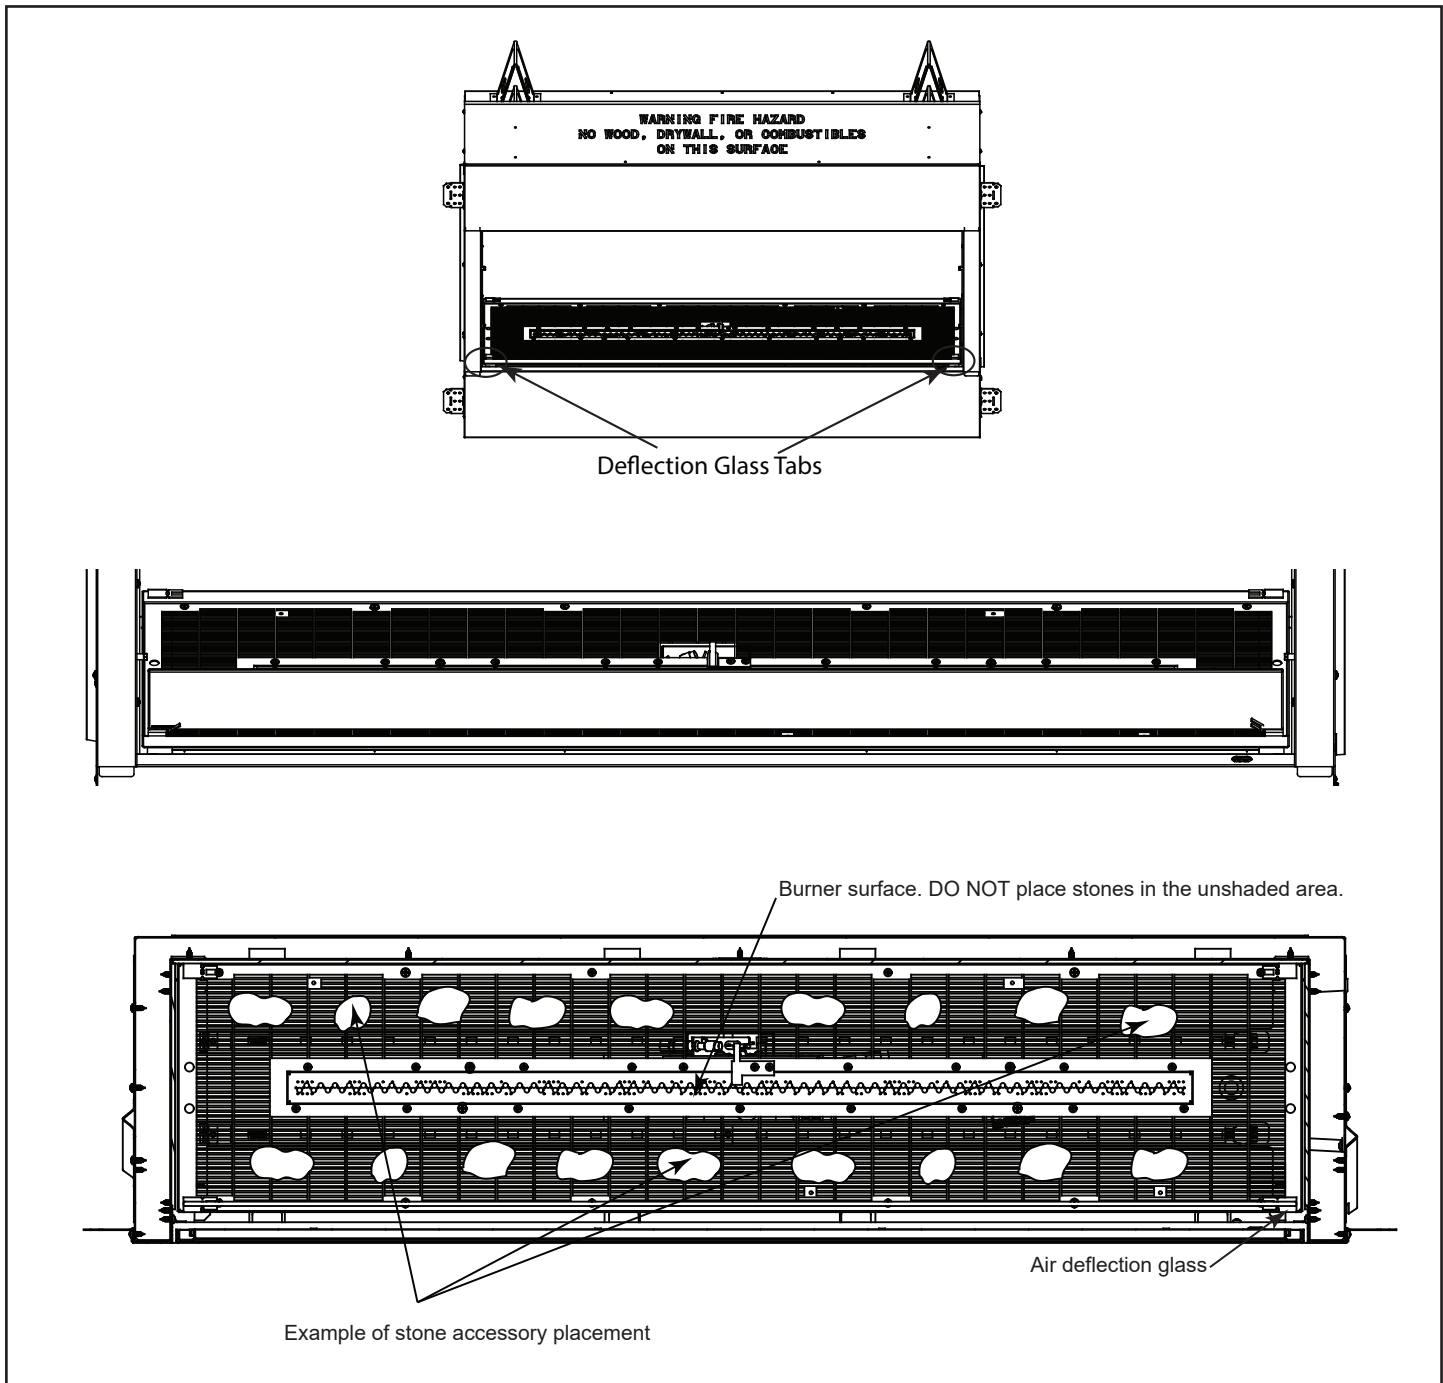

Figure 7.4– Air Deflection Glass and Stone Placement
NOTE: The air deflection glass must be installed prior to placing any crushed glass media, stone kit or log set. To install the air deflection glass simply place the edge of the deflection glass into the two position tabs (located at the front of the engine base) and slide into fingers until reaching the bottom of the tab slots, in front of the burner ports. The glass should stand upright, neither leaning forward nor backward. See Figure 7.4.
1. For best results, spread crushed glass media evenly over the entire floor and burner making sure the glass is not too thick over the burner ports (single layer only). See Figure 7.4.
2. Place the stones randomly in front of and behind the burner. **CAUTION: Do not allow stones to sit directly on burner or in flame.** See Figure 7.4.